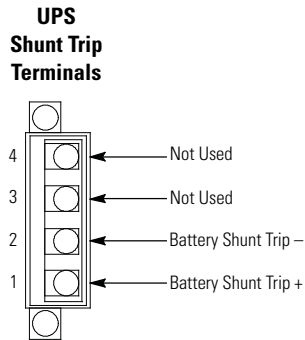

Figure 4-24. Battery Shunt Trip Terminal Assignments
10. Connect the wiring to the battery shunt trip terminals. See paragraph 3.2.4 and Table 4-3 for wiring and termination requirements, and Figure 4-24 for terminal assignments.